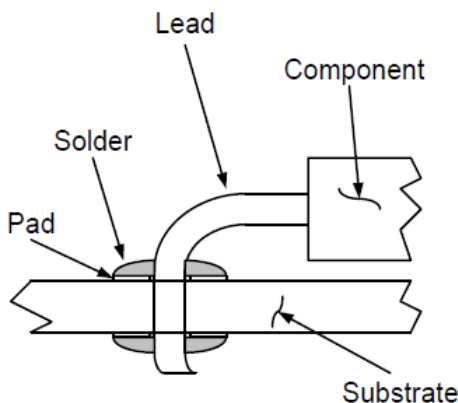

Fig. 7. A Solder Joint Exhibiting Good Wetting
1. Some circuit assemblers have migrated to *low activity fluxes*. Fluxes are available now which have such low activity levels that it is not necessary to remove them from the PCB. Such fluxes are commonly referred to as “no-wash” “leave-on” fluxes. However, low activity fluxes frequently lead to wettability problems. *Wettability* is a measure of how well the solder joins the device lead or terminal to the PCB (Figure 7). Two important factors in a low-activity flux process are the cleanliness of the device leads or terminals, and the plating thickness of the leads or terminals. If the terminals of a device are not sufficiently clean, *dewetting* can occur. If the plating thickness of the device terminals is insufficient, *non-wetting* can occur.